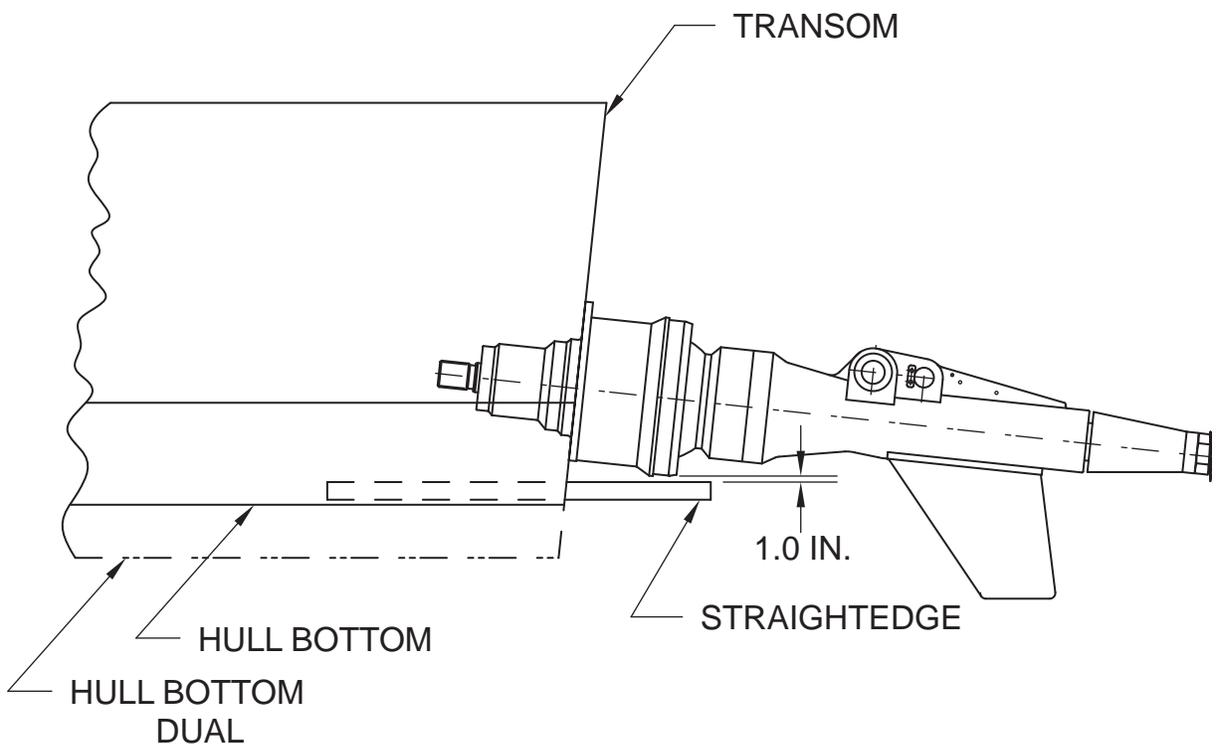

Figure 7. Measure for Clearance
7. Hold the thrust unit in place and verify 1 in. clearance* from the edge of the thrust socket to the plane of the vessel's bottom. See Figure 7. Verify that the drive flange hole pattern matches the hole pattern marked on the transom from template 1017597, page 1.